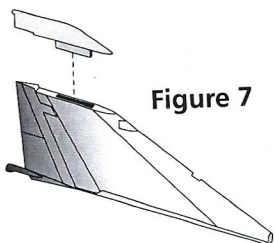

Figure 7
- The resin fin cap is a direct replacement for the kit parts as per Figure 7.